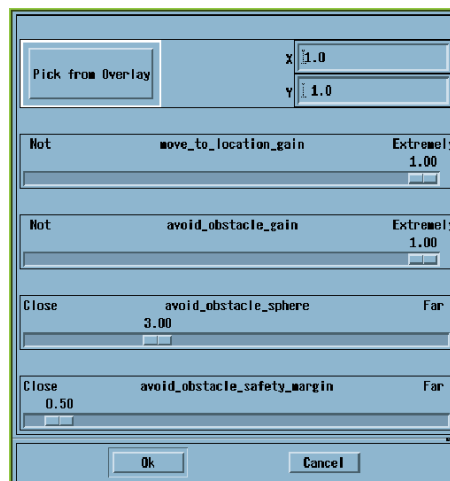

Figure 42: *CfgEdit* - modifying parameters for the GoTo state
- **GoTo**: The robot moves to a location specified in X - Y coordinates. You can type in the location as well as pick them from an overlay. If you left-click the **Pick from Overlay** button, *mlab* will pop up and ask you which overlay you want to use. Once the overlay is selected, you can left-click a desired position and it will be automatically translated into the X-Y coordinate. As you can see from Figure 42, some states (e.g., **GoTo** and **MoveToward** below) have the option that you can modify the gains of their primitive behaviors that are incorporated into the state. For example, if you increase “move_to_location_gain”, the attraction to the goal becomes larger while increasing “avoid_obstacle_gain” will cause repulsion from obstacles to be larger. The other parameters you can modify from this window are sizes for the sphere of influence and safety sphere for the obstacle avoidance behavior: “avoid_obstacle_sphere”, and “avoid_obstacle_safety_margin”, respectively. The zone of influence is the area where robots react with the obstacles, and if the robots are in the safety zone, virtual collisions are assumed to occur. To see how gains are set in your constructed FSA, toggle “Show state/trigger parameters” function in the third entry of the “Layout” menu.